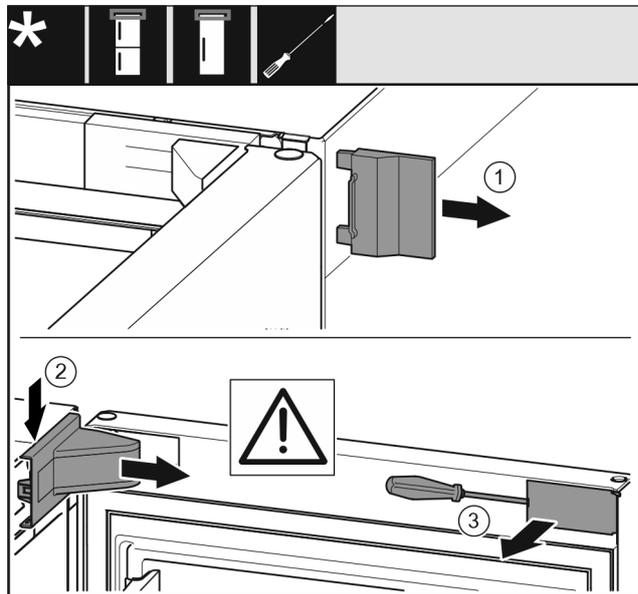

Fig. 14
- ▶ Remove the outer cover. Fig. 14 (1)
- ▶ Disengage the swap bearing block cover and loosen. Remove the swap bearing block cover. Fig. 14 (2)
- ▶ Use a slotted screwdriver to unlatch the trim and swing it to the side. Fig. 14 (3)